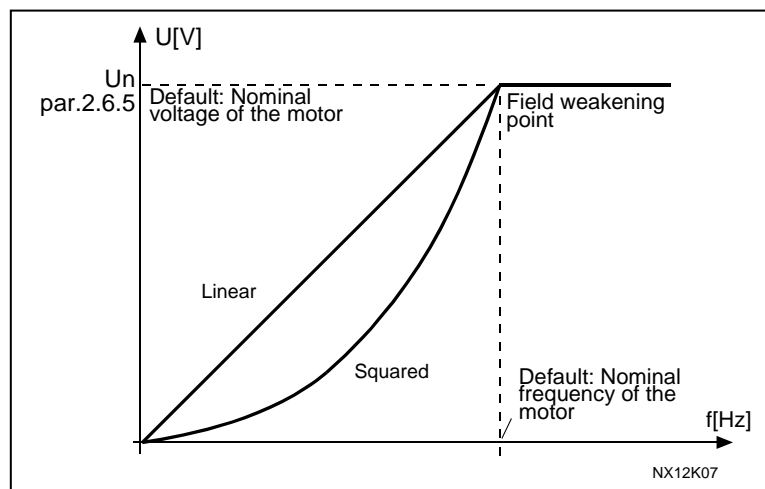

Figure 23. Linear and squared change of motor voltage
**Linear:** The voltage of the motor changes linearly with the frequency in the constant flux area from 0 Hz to the field weakening point where the nominal voltage is supplied to the motor. Linear U/f ratio should be used in constant torque applications. See Figure 23.